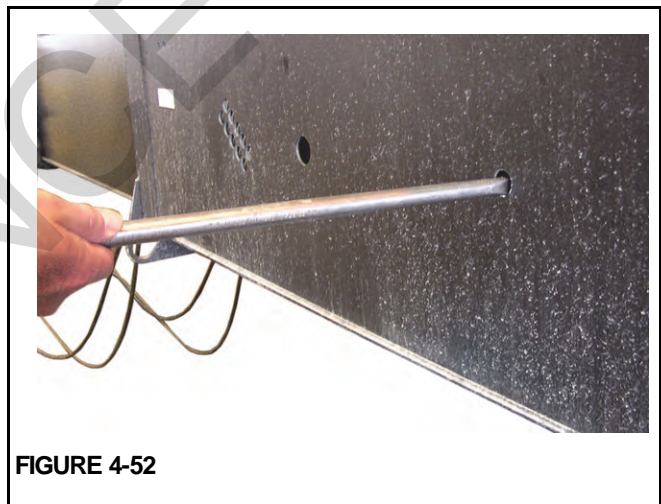

FIGURE 4-52
2. Use the locator bar as shown Figure 4-52 to aid in positioning the 6TH-5TH-4TH assembly in the 3RD section so that the wear pad lines up with the wear pad access holes.